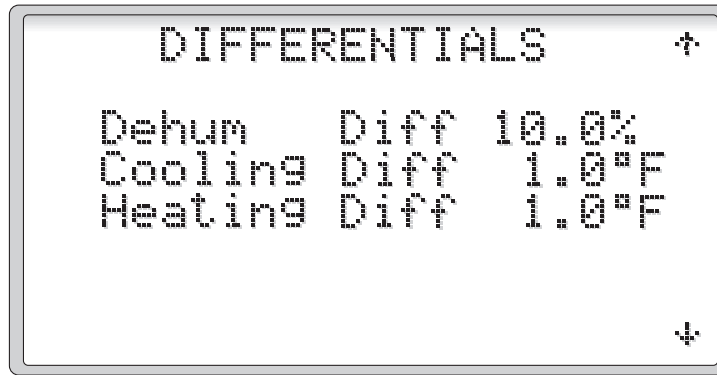

Figure 45
2.3.4.2.1 Tuning - Differentials (Figure 45)
Pressing the **DOWN** key will now display the DIFFERENTIALS screen (Figure 45). This screen shows the Cooling, Heating and Humidity Switch Differentials. This differential is the range between the making and breaking of the switch. The range of the Cooling and Heating Differential is 0.0°F to 9.9°F. The range of the Humidity Differential 0.0% to 9.9%.